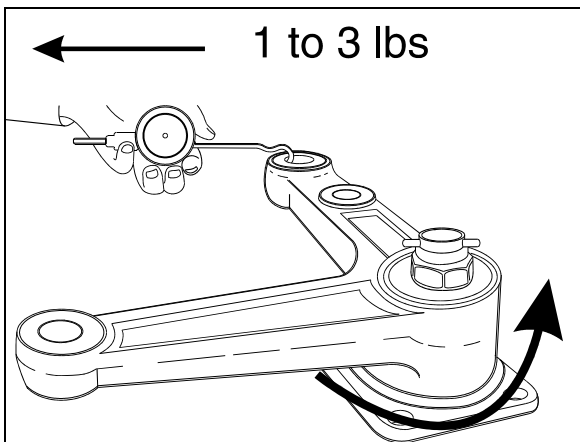

FIGURE 15: BELL CRANK 16045
4. Unscrew nut until bell crank or idler arm starts to turn by the application of 1 to 3 pounds load (Fig. 15).